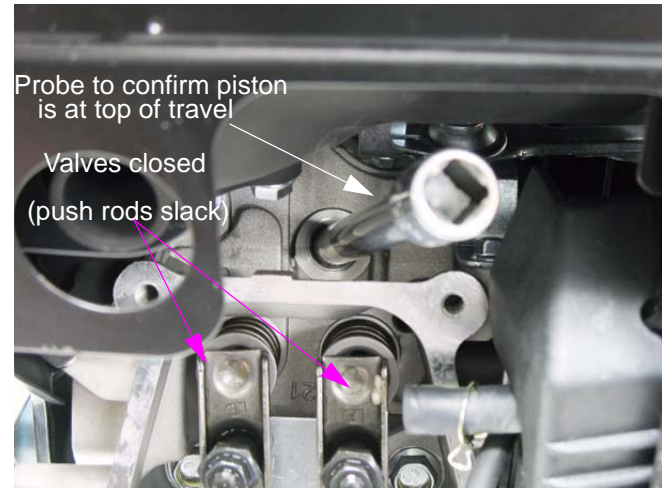

Figure 1.9
7. Confirm that the piston is at Top-Dead-Center on the compression stroke. See Figure 1.9.